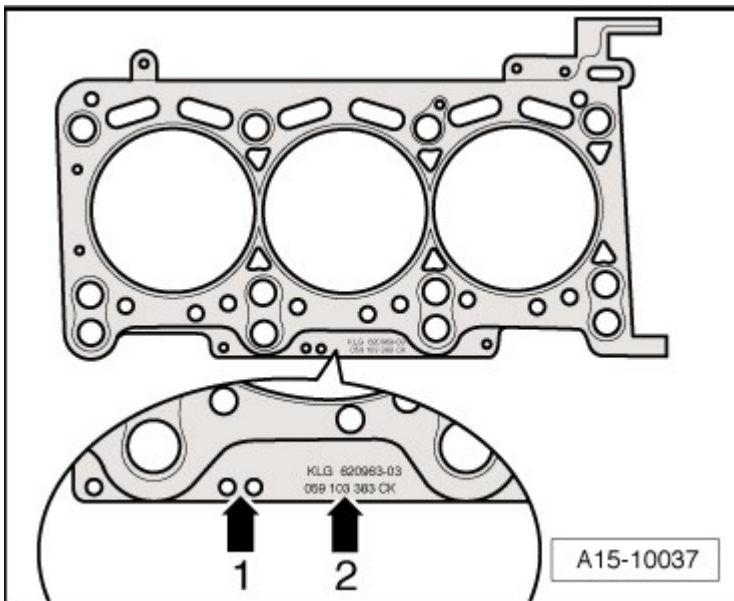

Fig. 5: Identifying Cylinder Head Gasket Identification
- Identification, refer to **Fig. 5**